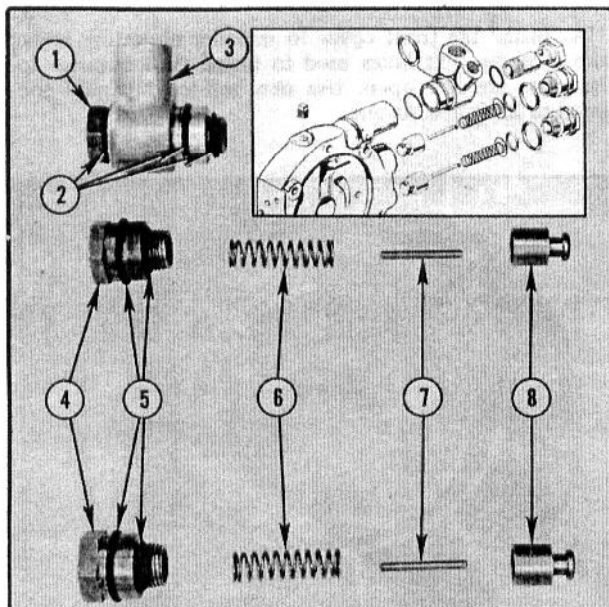

Fig. 18 - Regulator Valves
2. Remove the regulator valves from the left side of the transmission. Keep them separated so that the parts may be installed back into their *original* ports. See Figs. 18 and 22.